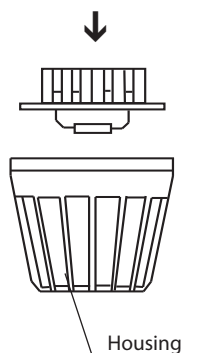

Fig. 8
3. Lead the sensor cable through the drilled hole and attach it to the sensor line according to fig. 8.